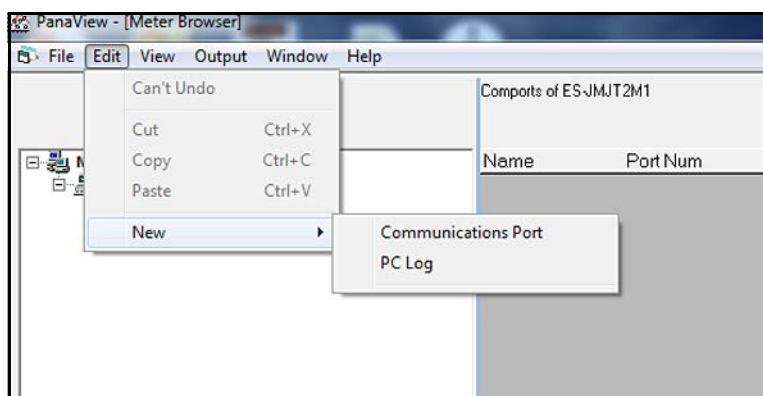
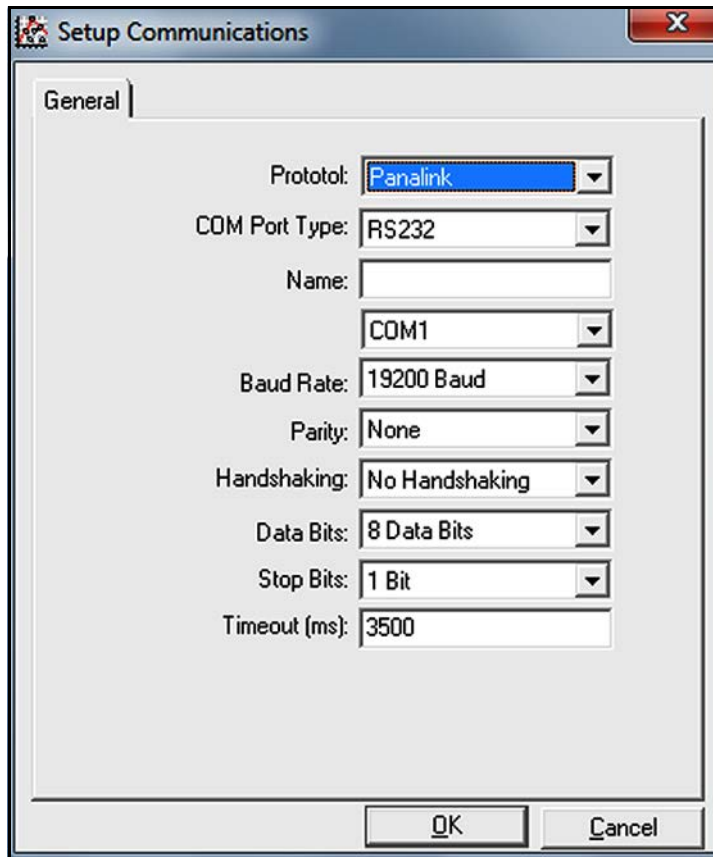

Figure 26: The Edit Menu
Figure 27: The Setup Communications Screen
3. Click on the "New" option to select it, and a submenu opens with two choices on it (see Figure 26 below).
4. Click on the “Communications Port” option to select it (see *Figure 26 on page 19*). The dialog box shown in *Figure 27* below opens, with “Untitled” as the default “Name.”
The dialog box in *Figure 27* above permits the user to name the communication port (the name “Comport” is used for this example) and to set up all of its parameters.
5. After all of the communications port parameters have been set, click the **[OK]** button (see Figure 27 on page 20).